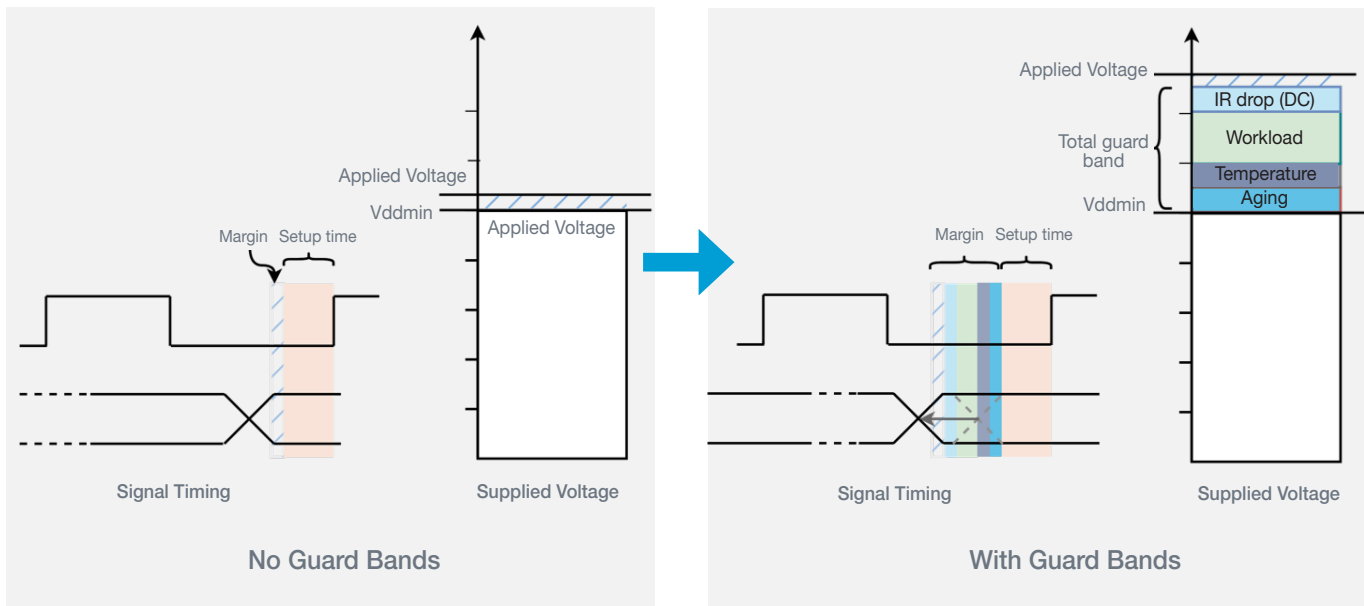

Figure 3: Voltage added to compensate for various path delay degradation factors
**Figure 3** illustrates the voltage overhead needed for robust in-mission performance. Guard-bands are added on top of the  $V_{ddmin}$  to account for the different possibilities during the lifetime of the device. Since these can potentially happen simultaneously, their sum needs to be considered.